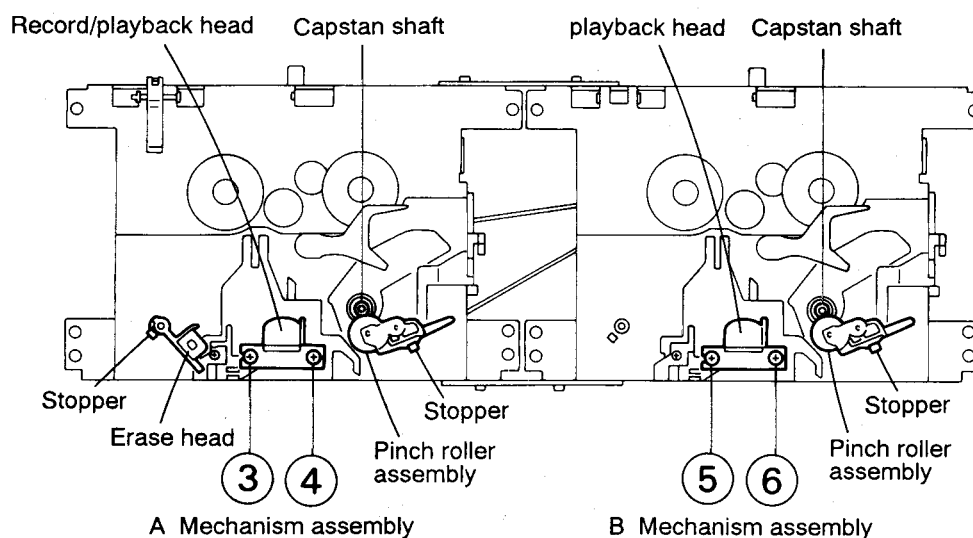

Fig. 5-22
(See Figs. 5-22, 23)
14. Pull out all of the three stages of CD tray assembly in the arrow direction (E) until these stages stop (See Fig. 5-22).